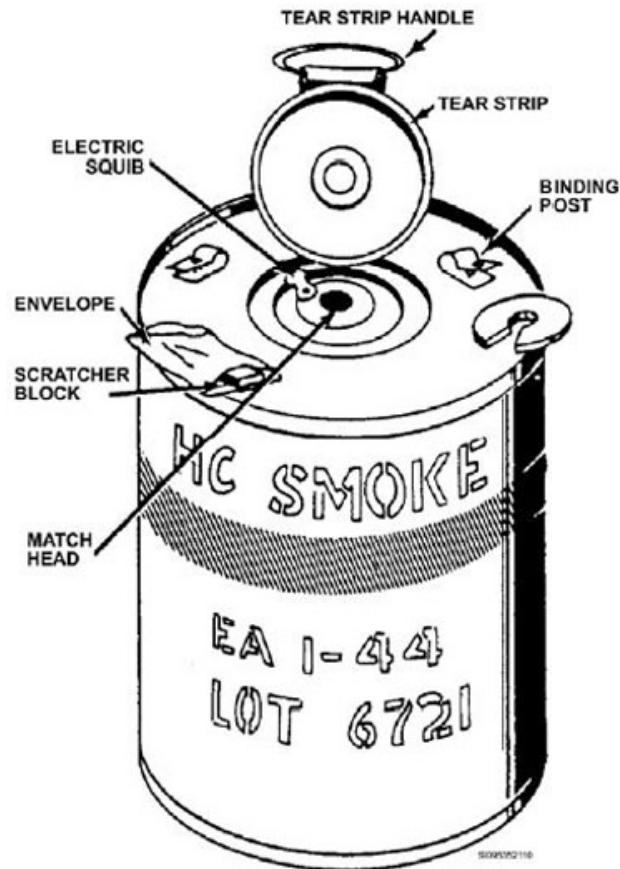

Figure 1-10. HC smoke grenade.
The AN-M8 smoke grenade produces a white-colored smoke. It is a cylindrical metal container filled with a hexachloroethane (HC) smoke mixture and fitted with an M201A1 grenade igniting fuze (fig. 1-10). The AN-M8 grenade is issued with the fuze cocked and ready to fire. The grenade functions if the safety lever is released. The pressure sensitive tape is blown off the emission holes and the smoke is released.